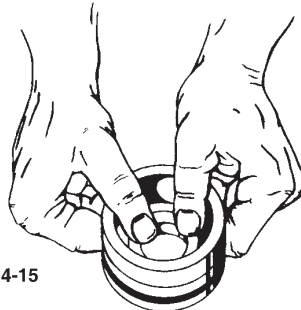

Figure 4-15
23. Carefully press seal seats (#12.5) into both seal cups (#2).(refer to figure 4-15) A clean soft material should be used between the seal face and pressing tools. The smoothest side of the seat should face up. Caution: Dirt and scratches can quickly ruin seals. Place an "O" ring (#6) into the groove around each seal cup.